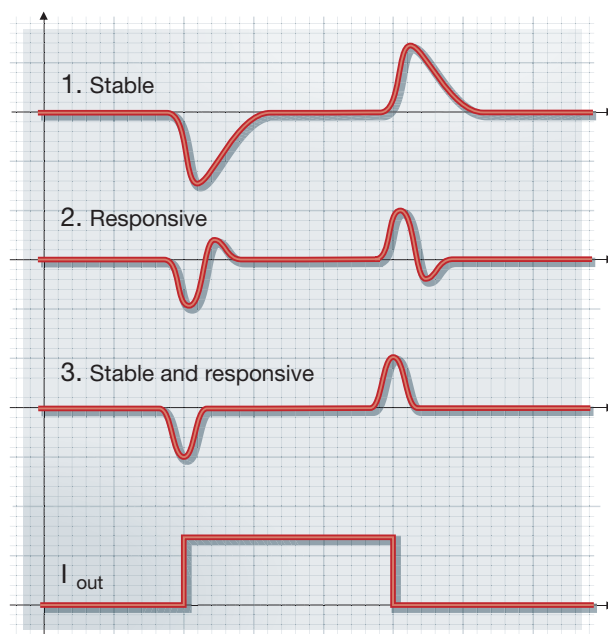

Figure 5 – Non-linear, or adaptive, control loops can combine the benefits of stability and responsiveness as exemplified by VOUT 3.
In analog control designs, the feedback loop compensation is a compromise between stability and dynamic response performance. Using digital control techniques it is possible to construct non-linear, or adaptive, control loops that change the compensation as a function of operating conditions. That is, the converter displays fast response when it needs to and slower response in other situations. *Figure 5* shows examples of this adaptive behavior. In addition to the enhanced dynamic response, this approach has other benefits to the power system. Fewer output decoupling capacitors will be required to insure a given voltage tolerance with resulting savings in cost and component space (2). Non-linear control can also be used to allow converter operation in discontinuous mode without the usual disadvantage of poor dynamic performance.